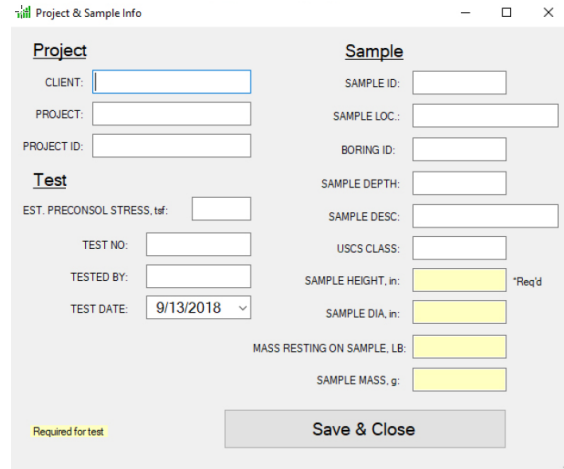

Figure 8: Project & Sample Info Menu
3. Select the **Sample Info** button then fill in applicable project and sample information into the **Project & Sample Info** menu (Figure 8). Fields highlighted in yellow indicate required information for testing. Once completed, select **Save & Close**.